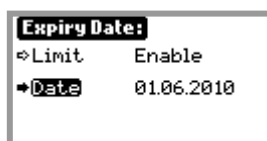

Figure 28: Expiry Data Limit Enable screen
4. Press the (↓) button until the "Date" is highlighted (Figure 28).